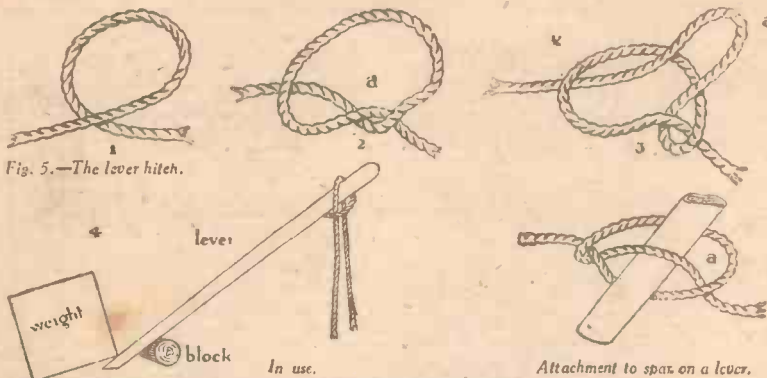
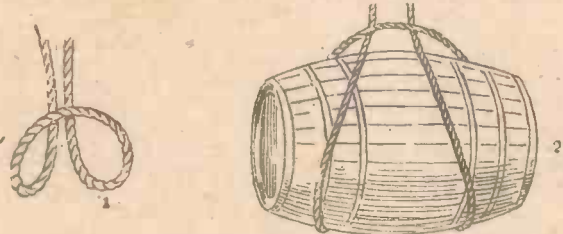

Fig. 5.—The lever hitch.
Fig. 7.—Slinging a barrel on its side.
Our next knot is the lever hitch, shown in Fig. 5. Sometimes we wish, as is seen in Fig. 5 (4), to raise a
which it is used. This knot can also be used for fastening a spar across a rope, provided that there is always a certain amount of strain on both ends of the rope. A slight modification of it, Fig. 6 (1) is used for slinging barrels, etc., in an upright position. You will see that the knot is formed simply from the lever hitch by taking an extra turn at x in Fig. 5 (3). In Fig. 6 (2), you will see the knot in use. Fig. 7 is also another form of lever hitch.